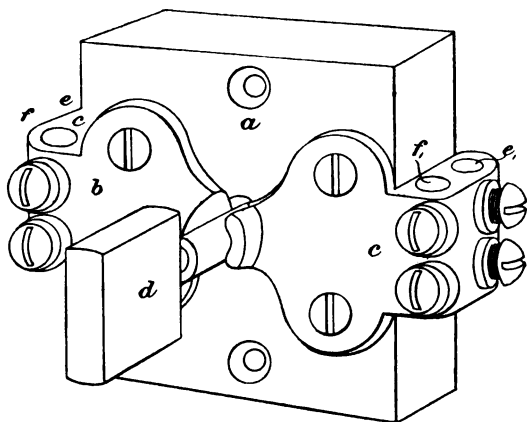

Fig. 23.—Westinghouse Short-circuiting Plug.
*Short-circuiting Plug.*—The short-circuiting plug, Fig. 23, is connected across any instrument or apparatus which it may be desirable to cut out of the circuit at any time for repair or adjustment. Thus, voltmeters are not generally kept permanently in circuit, and a means of readily cutting such indicators in or out is indispensable. The wires are connected directly through the side receivers, and when the plug is withdrawn the current flows through them. The insertion of the plug, however, offers a short passage for the current through the block, and thereby cuts out the connected apparatus, enabling it to be removed without interruption to the service.